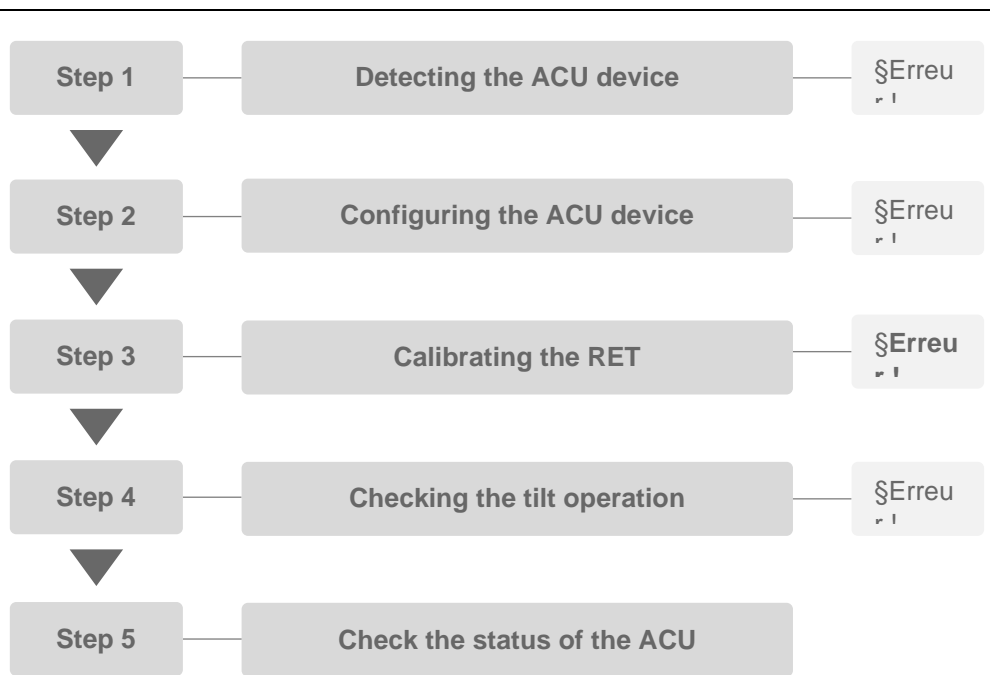

Figure 5: Flowchart for programming an ACU device
This section describes how to program the new ACU that has been installed on-site on an antenna. It needs to use (PC+adaptor): the Antenna Line Configurator, listed in Table 1 (item 2). This procedure applies to every ACU family and is divided into 5 steps, as depicted in the flowchart in Figure 5. The ACU-A20-S is chosen as an example for describing those steps.